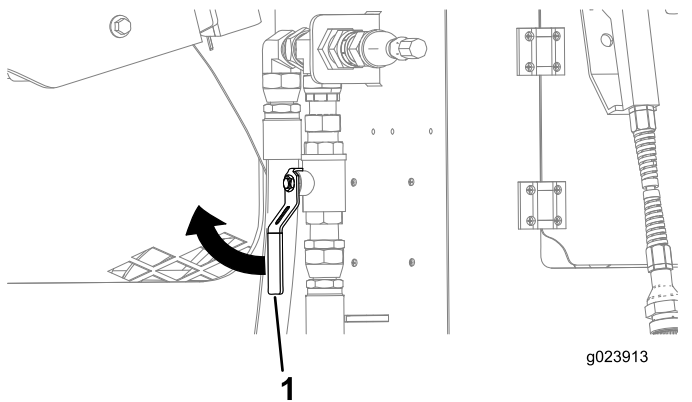

Figure 135
4. Ensure that the valve near the rear compartment is in the CLOSED position (Figure 135).